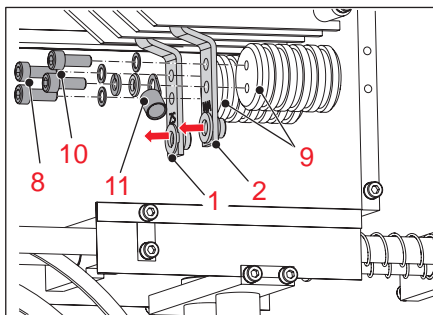

Figure 15
6. Release the two screws M6 (8) of the main contact ZS (1) and slide off screws, retaining washers as well as the main contact ZS (1) from the isolator (9), see **Figure 15**.
7. Release the two screws M6 (10) of the main contact WA (2) and slide off screws, retaining washers, serrated lock ring, cable lug (11) with cable (to contact K1/14) as well as the main contact WA (2), see **Figure 15**.
8. Screw new main contacts ZS (1) and WA (2) with the screws M6 (8/10) and the retaining washers on the isolators (9) (**Figure 15**). In doing so, observe the following:
- Fix main contact ZS (1) to the left isolator.
- Fix main contact WA (2) together with the cable lug (11) (cable to contact K1/14) and serrated lock ring to the right isolator. (Each seen from the front through the inspection window.)
9. Set tight the screws M6 (8/10) of the two main contacts, see **Figure 15**.